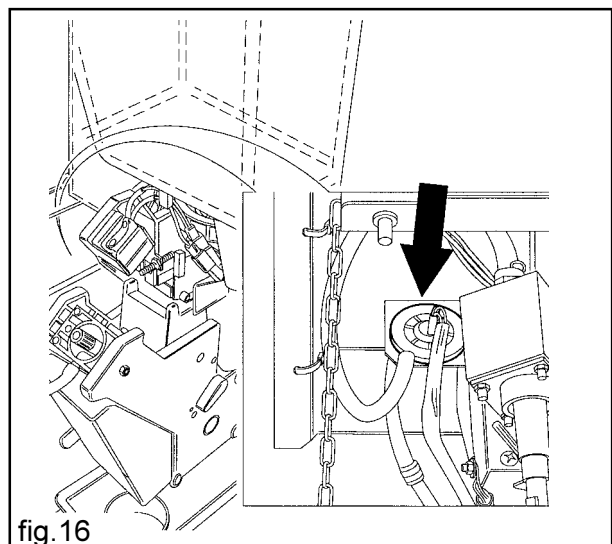

fig.16
- The pump that delivers the required amount of water -controlled by a special electronic device (volumetric counter)- starts up, withdrawing the water from the coffee boiler (fig.16).